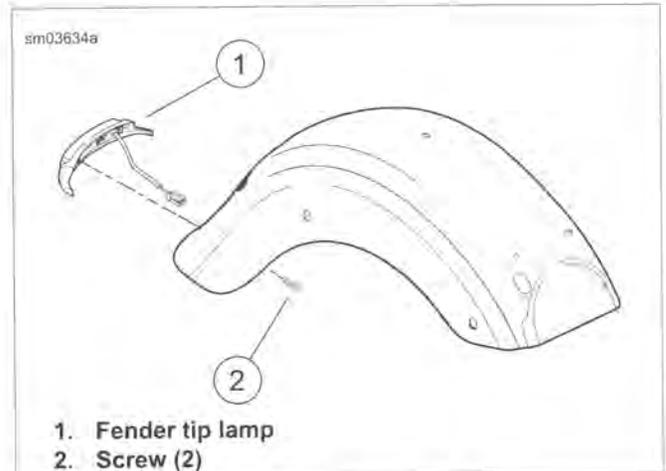

Figure 7-30. Rear Fender Tip Lamp
5. See Figure 7-30. Remove two screws (2).
4. See Figure 7-30. Place fender tip lamp into position. Secure with two screws (2). Tighten to 12-18 **in-lbs** (1.4-2.0 Nm).